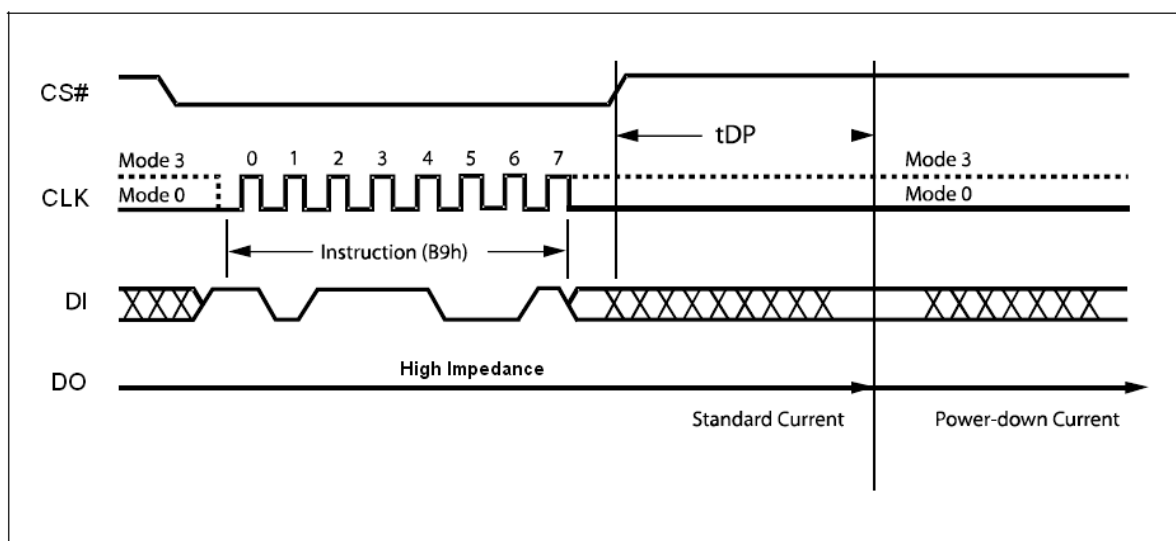

Figure 14. Deep Power-down Instruction Sequence Diagram
The instruction sequence is shown in Figure 14 .Chip Select (CS#) must be driven High after the eighth bit of the instruction code has been latched in, otherwise the Deep Power-down (DP) instruction is not executed. As soon as Chip Select (CS#) is driven High, it requires a delay of t_{DP} before the supply current is reduced to ICC2 and the Deep Power-down mode is entered.